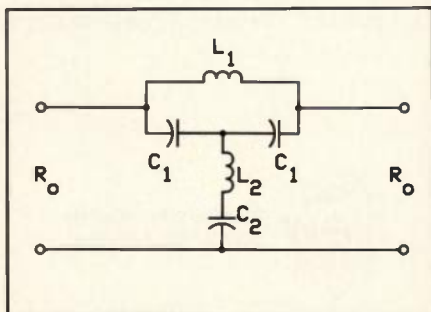

Figure 1. T-type all pass network.
a. A standard "T" type all pass network (Figure 1) of constant iterative impedance (R_o) with passive components is used. These sections have second order delay (parabolic) response. The tuning of these sections, however, is very difficult since five components per section have to be varied in order to meet delay, response and return loss specifications simultaneously.